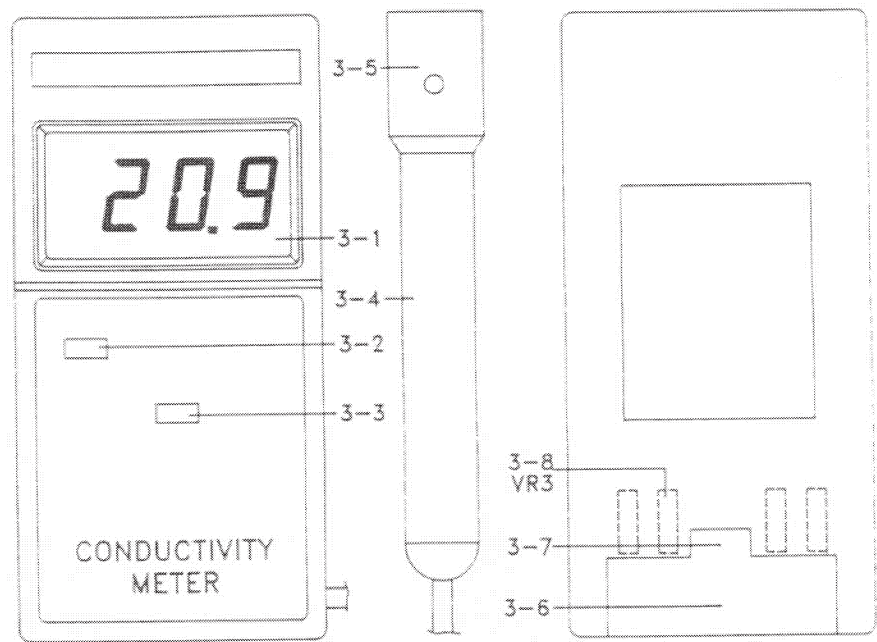

Fig. 1
- 1) Slide the " Off/On/Hold Switch " (3-2, Fig. 1) to the "On" position.
- 2) Slide the " Range Switch " (3-3, Fig. 1) to the " 199.9 μ S ", " 1.999 mS ", " 19.99 mS " according the measurement requirement.
- 3) Hold the " Electrode Handle " (3-4, Fig. 1) by hand & let the " Conductivity Electrode " (3-5, Fig. 1) is immersed wholly into the measured solution, then the Display will show the conductivity values (μ S, mS).
When make any measurement, if select the " On/Off/ Hold Switch " (3-2, Fig.1) to the " Hold " position will keep the data on the display. It will release the data hold function select the " On/Off/Hold Switch " to the " On " position again.
- 2) Slide the " Range Switch " (3-3, Fig. 1) to the " 1.999 mS " position.
- 3) Hold the " Electrode Handle " (3-4, Fig. 1) by hand & let the " Conductivity Electrode " (3-5, Fig. 1) is immersed wholly into the above " 1.413 mS Calibration Solution ", then adjust the " Calibration Adj. VR " (VR 3, ref. 3-8, Fig. 1) until the display show the value same as 1.413 mS exactly.
- 2) Loose the " Battery Cover Screw " (3-7, fig. 1), slide the " Battery cover " (3-6, Fig. 1) away from the instrument and remove the battery.